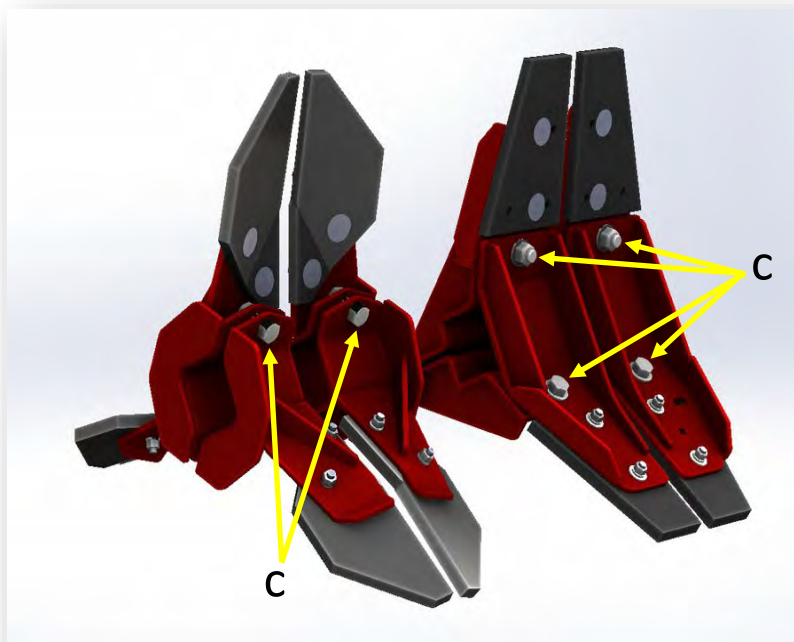

Figure 7-18: Rock Paddle and Solid Paddle Adjustment
- Loosen lock nuts (C), shown in Figure 7-18, on the paddle mounts.
- Tighten lock nuts (C).